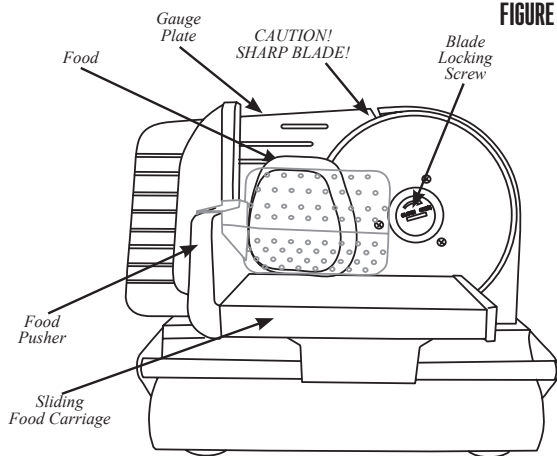

FIGURE 2
4. Place food on to the Sliding Food Carriage between the Gauge Plate and the Food Pusher. To avoid danger of injury, always use the Food Carriage and Food Pusher while slicing (Figure 2).